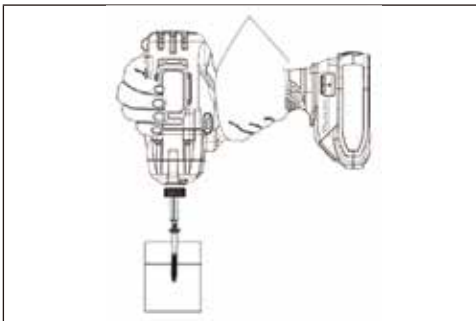

FIG. 10
3. Insert the screwdriver bit fully into the screw head (Fig. 10).